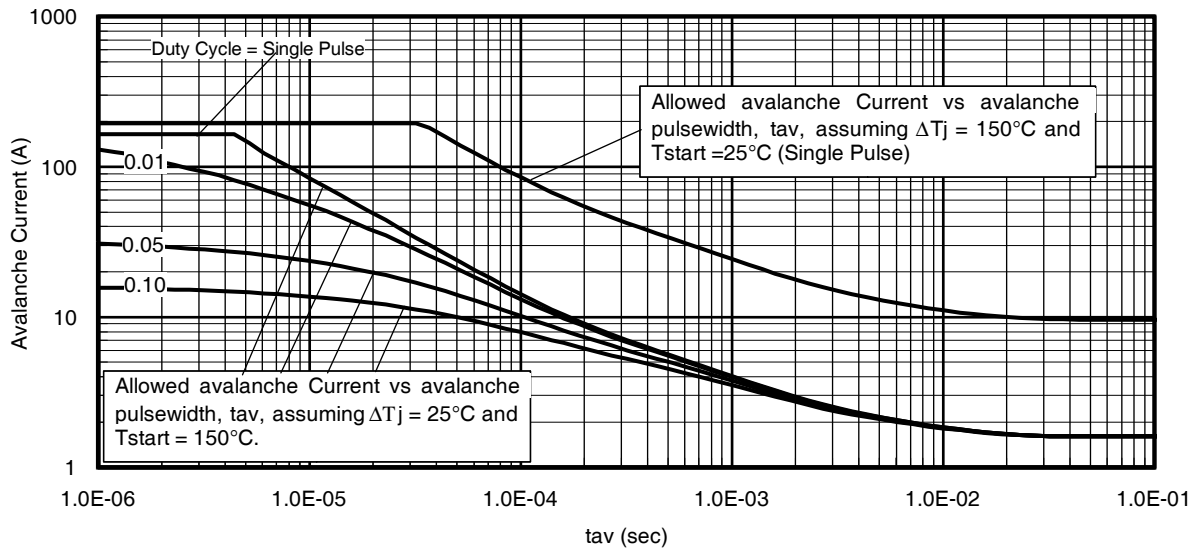

Fig 14. Typical Avalanche Current vs. Pulsewidth
- ④ $I_{SD} \leq 165A$, $di/dt \leq 430A/\mu s$, $V_{DD} \leq V_{(BR)DSS}$, $T_J \leq 175^\circ\text{C}$.
- ⑤ Pulse width $\leq 400\mu s$; duty cycle $\leq 2\%$.
- ⑥ $C_{oss \text{ eff. (TR)}}$ is a fixed capacitance that gives the same charging time as C_{oss} while V_{DS} is rising from 0 to 80% V_{DSS} .
- ⑦ $C_{oss \text{ eff. (ER)}}$ is a fixed capacitance that gives the same energy as C_{oss} while V_{DS} is rising from 0 to 80% V_{DSS} .
- ⑧ When mounted on 1" square PCB (FR-4 or G-10 Material). For recommended footprint and soldering techniques refer to application note #AN-994.
- ⑨ $R_{\theta J}$ is measured at T_J approximately 90°C .
- ⑩ Limited by T_{Jmax} , see Fig. 14, 15, 22a, 22b for typical repetitive avalanche performance.
- ⑪ $R_{\theta JC}$ value shown is at time zero.
Notes on Repetitive Avalanche Curves, Figures 14, 15:
7. ΔT = Allowable rise in junction temperature, not to exceed T_{jmax} (assumed as 25°C in Figure 14, 15).